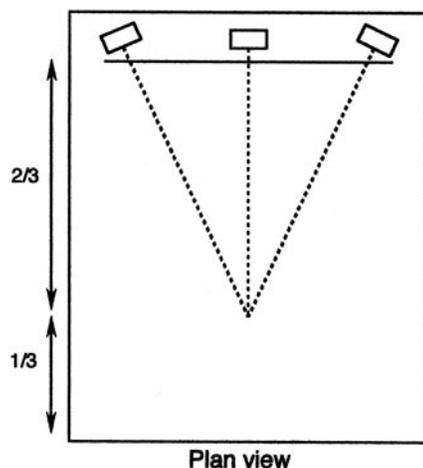

Figure 40: Screen channels, plan view.
- Whether the screen is curved or not, toe the outside loudspeakers inward so that their on-axis response will intersect at a point about  $2/3$  the distance to the back wall. (See Figure 40)